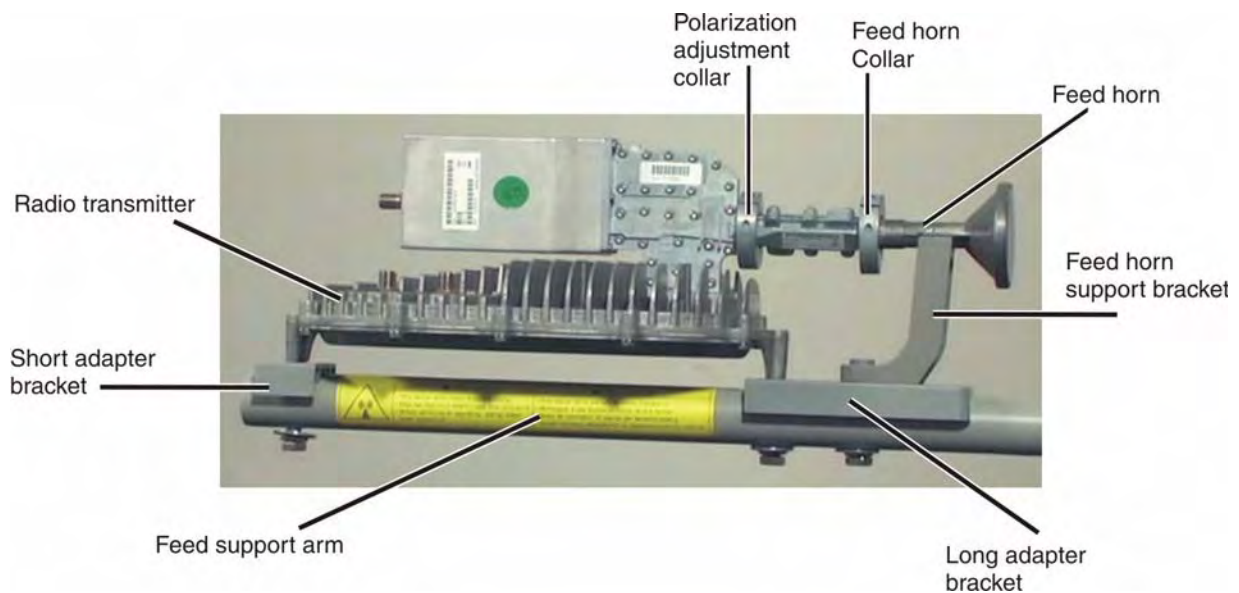

Figure 22: Radio assembly and feed horn installed
4. Fit the two sections of the feed horn collar around the ridge at the point where the feed horn meets the polarizer, as shown in Figure 22.